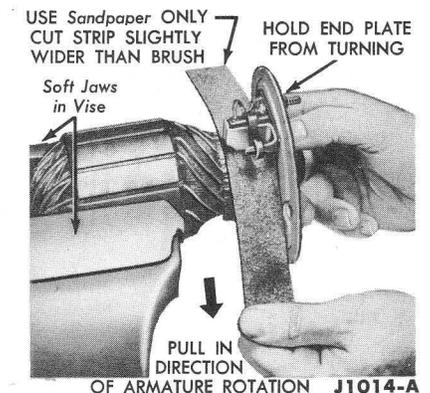

FIG. 11—Generator Brush Seating
5. Insert new brushes in the brush holders and seat them (Fig. 11). Install the armature terminal screw and insulators, and install the ground brush screw.
5. Make sure that the new brushes slide freely in the brush holders. Seat the new brushes by sanding as shown in Fig. 11.